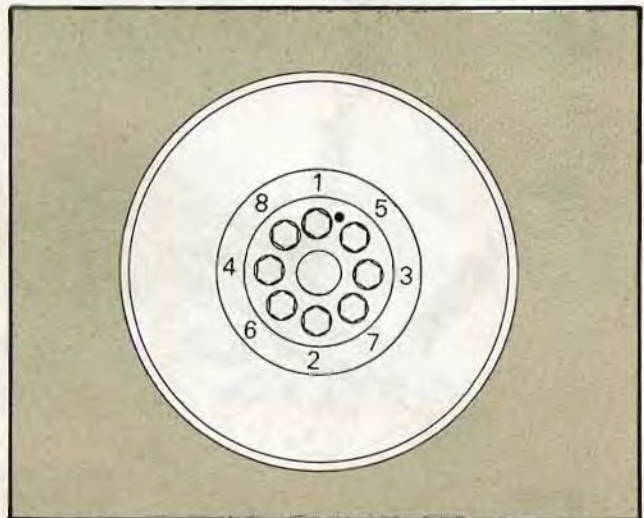

Figure 102. Flywheel Bolt Tightening Sequence
5. Install and uniformly tighten the eight flywheel bolts in the sequence shown in two stages (Fig. 102):